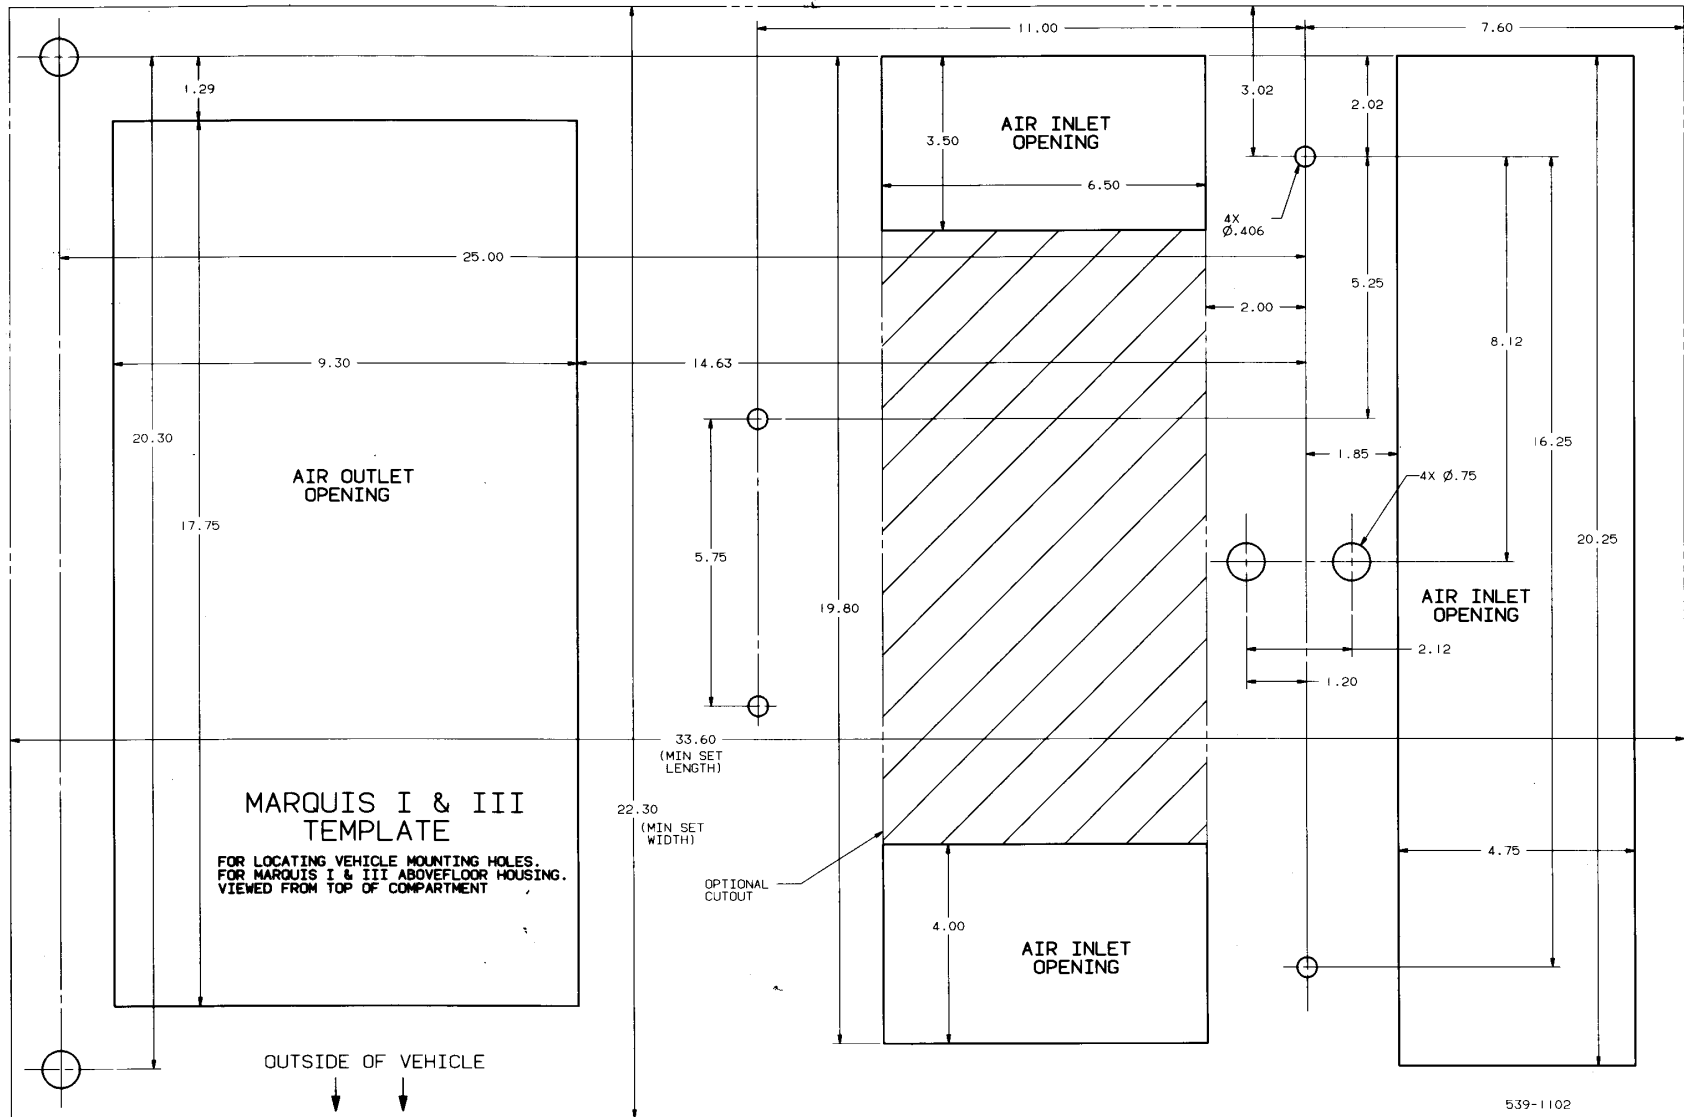

FIGURE 3-2. COMPARTMENT FLOOR PLAN
4. Construct the compartment floor to prevent oil, fuel or water accumulation. Provide openings in the compartment floor according to the Compartment Floor Plan, Figure 3-2.
When designing the air inlet and outlet for the set compartment (see Figure 3-2), allow for the restriction of grilles and ductwork: some expanded metal grilles provide as little as 60 percent free air inlet area per square foot. The most efficient grille provides only 90 percent free inlet area per square foot. Obtain the free inlet area of the grille material from the material supplier. Multiply the grille area by the free area percentage to get the free inlet area.